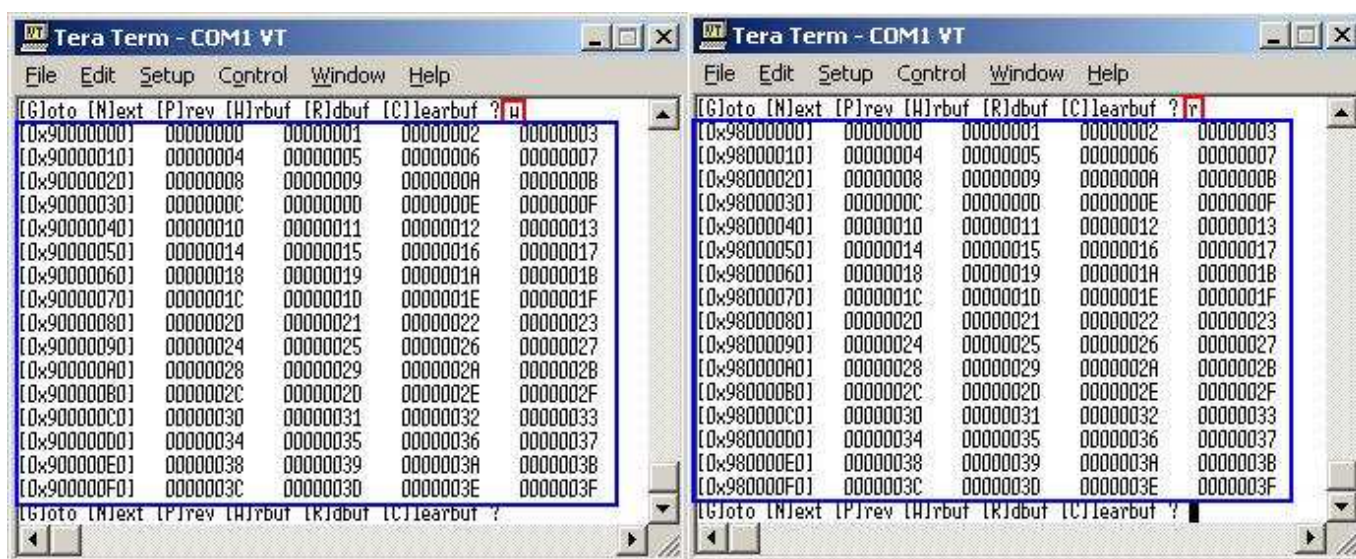

Figure 17 Read 256 byte data at top of write/read buffer
- 'W': this submenu is used to read 256 byte data at top of write buffer, as shown in Figure 17.
- 'R': this submenu is used to read 256 byte data at top of read buffer, as shown in Figure 17.